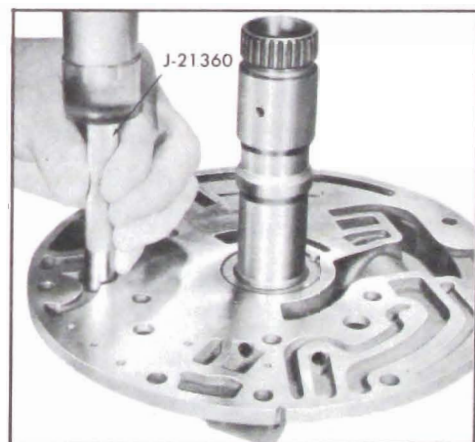

Figure 5-605
9. If removed, install by-pass valve spring (large end first) valve and seat, using J-21360, drive the seat to the stop. See Figure 5-605.